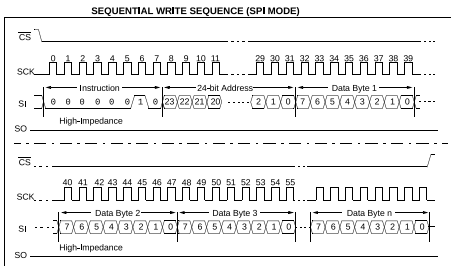

Figure 9: Timing diagram for writing data in sequential mode [2].
- in sequential/page mode subsequent bytes can be written by transferring data with following clock cycles (Fig. 9).